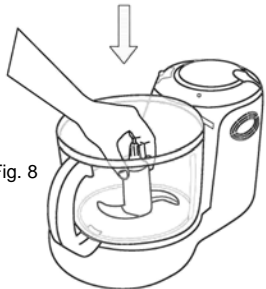

Fig. 8
3. Fit the dough blade over the spindle and press firmly into place. (Fig. 8)